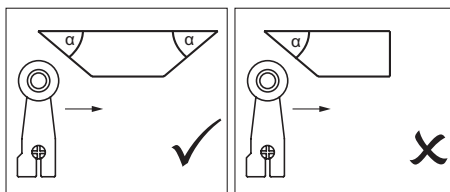

Fig. 1: Dog shape
- To prevent the actuating element from bouncing, the dog must run out gradually (see Fig. 1).